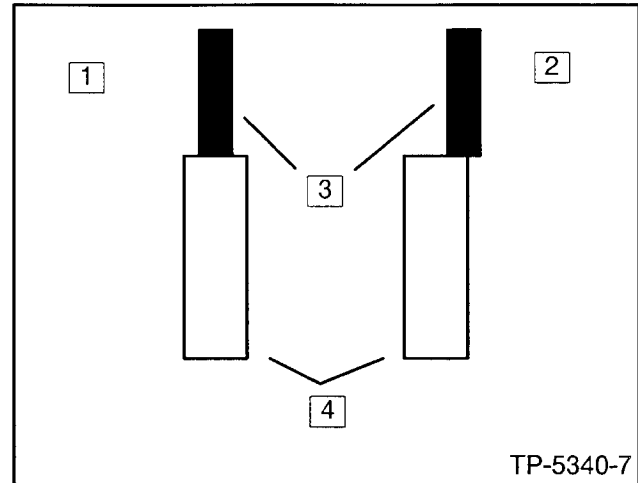

**Figure 8-14. Removing the Drive Disk
24. Remove the drive disk from the rotor by removing eight bolts using a torque wrench with a 14-mm socket. See Figure 8-14.